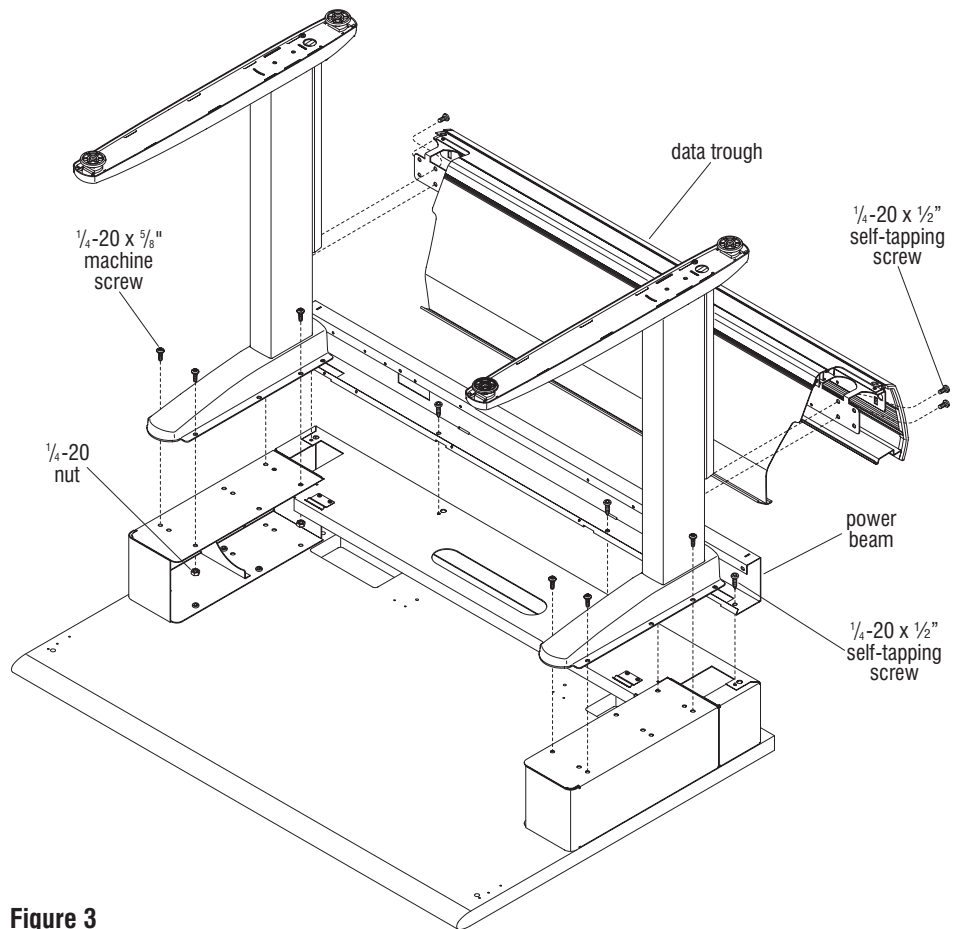

Figure 3
6. Attach legs to wheelchair kit leg supports with eight $\frac{1}{4}$ -20 x $\frac{5}{8}$ " screws and nuts from the wheelchair hardware kit (Figure 3).
7. Install power beam to fascia with four $\frac{1}{4}$ -20 x $\frac{1}{2}$ " self-tapping screws from wheelchair hardware kit (Figure 3).
8. Assemble data trough to legs as illustrated, using four $\frac{1}{4}$ -20 x $\frac{1}{2}$ " self-tapping screws (Figure 3).